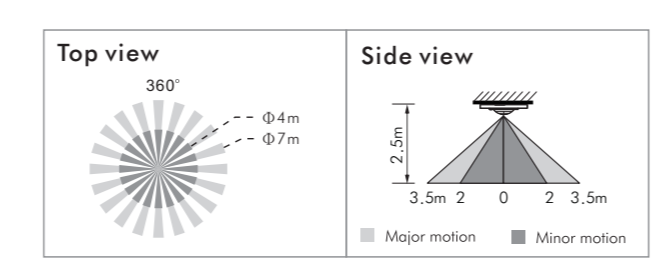

FIG.2
3.1.1 It is recommended to install at the height of 2.5m, and the detection range can reach up to the diameter of 7m (See FIG.2).